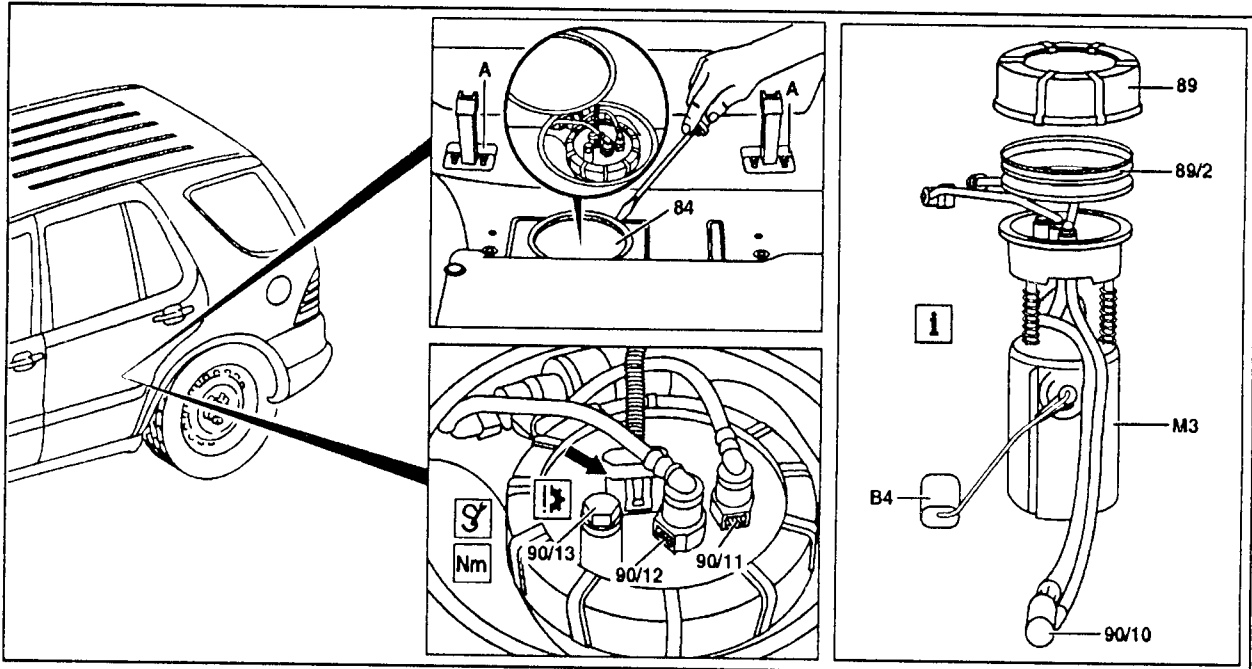

Figure 1
7. Unplug electrical connector (arrow, Figure 1) on fuel pump.
8. Unclip fuel feed line (90/12, Figure 1) and return line (90/11) using special tool no. 163 589 00 37 00.
9. Unscrew union nut (89, Figure 1) using special tool no. 163 589 01 07 00.
10. Remove pump (m3, Figure 1). (Exercise caution when removing pump to avoid fuel spillage into vehicle).
- ⚠ Caution ! : Do not bend float arm [B4, Figure 1] when installing pump into tank. (Note: Replace union nut [89] and seal [89/2]. Lubricate seal to make installation easier. Make sure union nut is tightened up snug. Do not tighten excessively!)